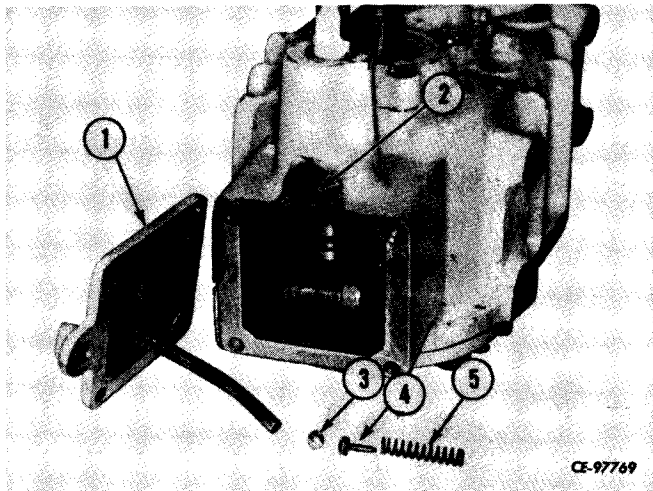

Figure 4-102
Insert detent ball (3, Fig. 4-102), plunger (4) and gear shift lock spring (5) into bore (2) in case. Position new gasket and shift cover (1) on case. Install and tighten cap screws and lock washers.